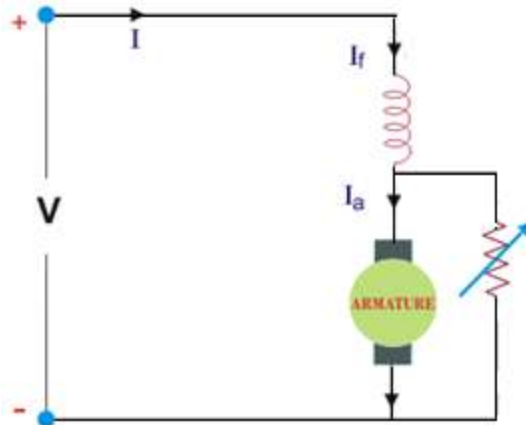

Figure.2.11. Flux control – Armature Diverter method for DC Series motor.
2.5.1.2.1. Armature Diverter Method. A Diverter across the armature can be used for obtaining speeds lower than the normal speed is as shown in the figure 2.11. The variation in speed can be controlled by varying the diverter resistance.